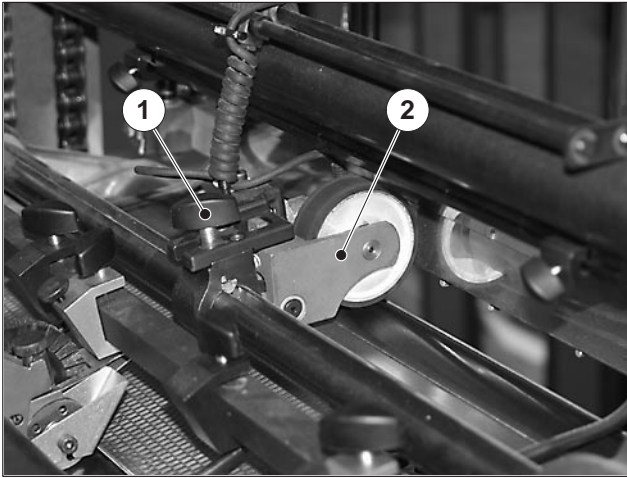

Fig. 55
The bundle detector (Fig. 55/2) checks the shingle thickness in the infeed roller area. Different measures are taken, depending on whether a double sheet or multiple sheets have been detected.
1. Loosen the tommy bar screw (Fig. 55/1) on the bundle detector.
3. Tighten the tommy bar screw (Fig. 55/1) on the bundle detector.